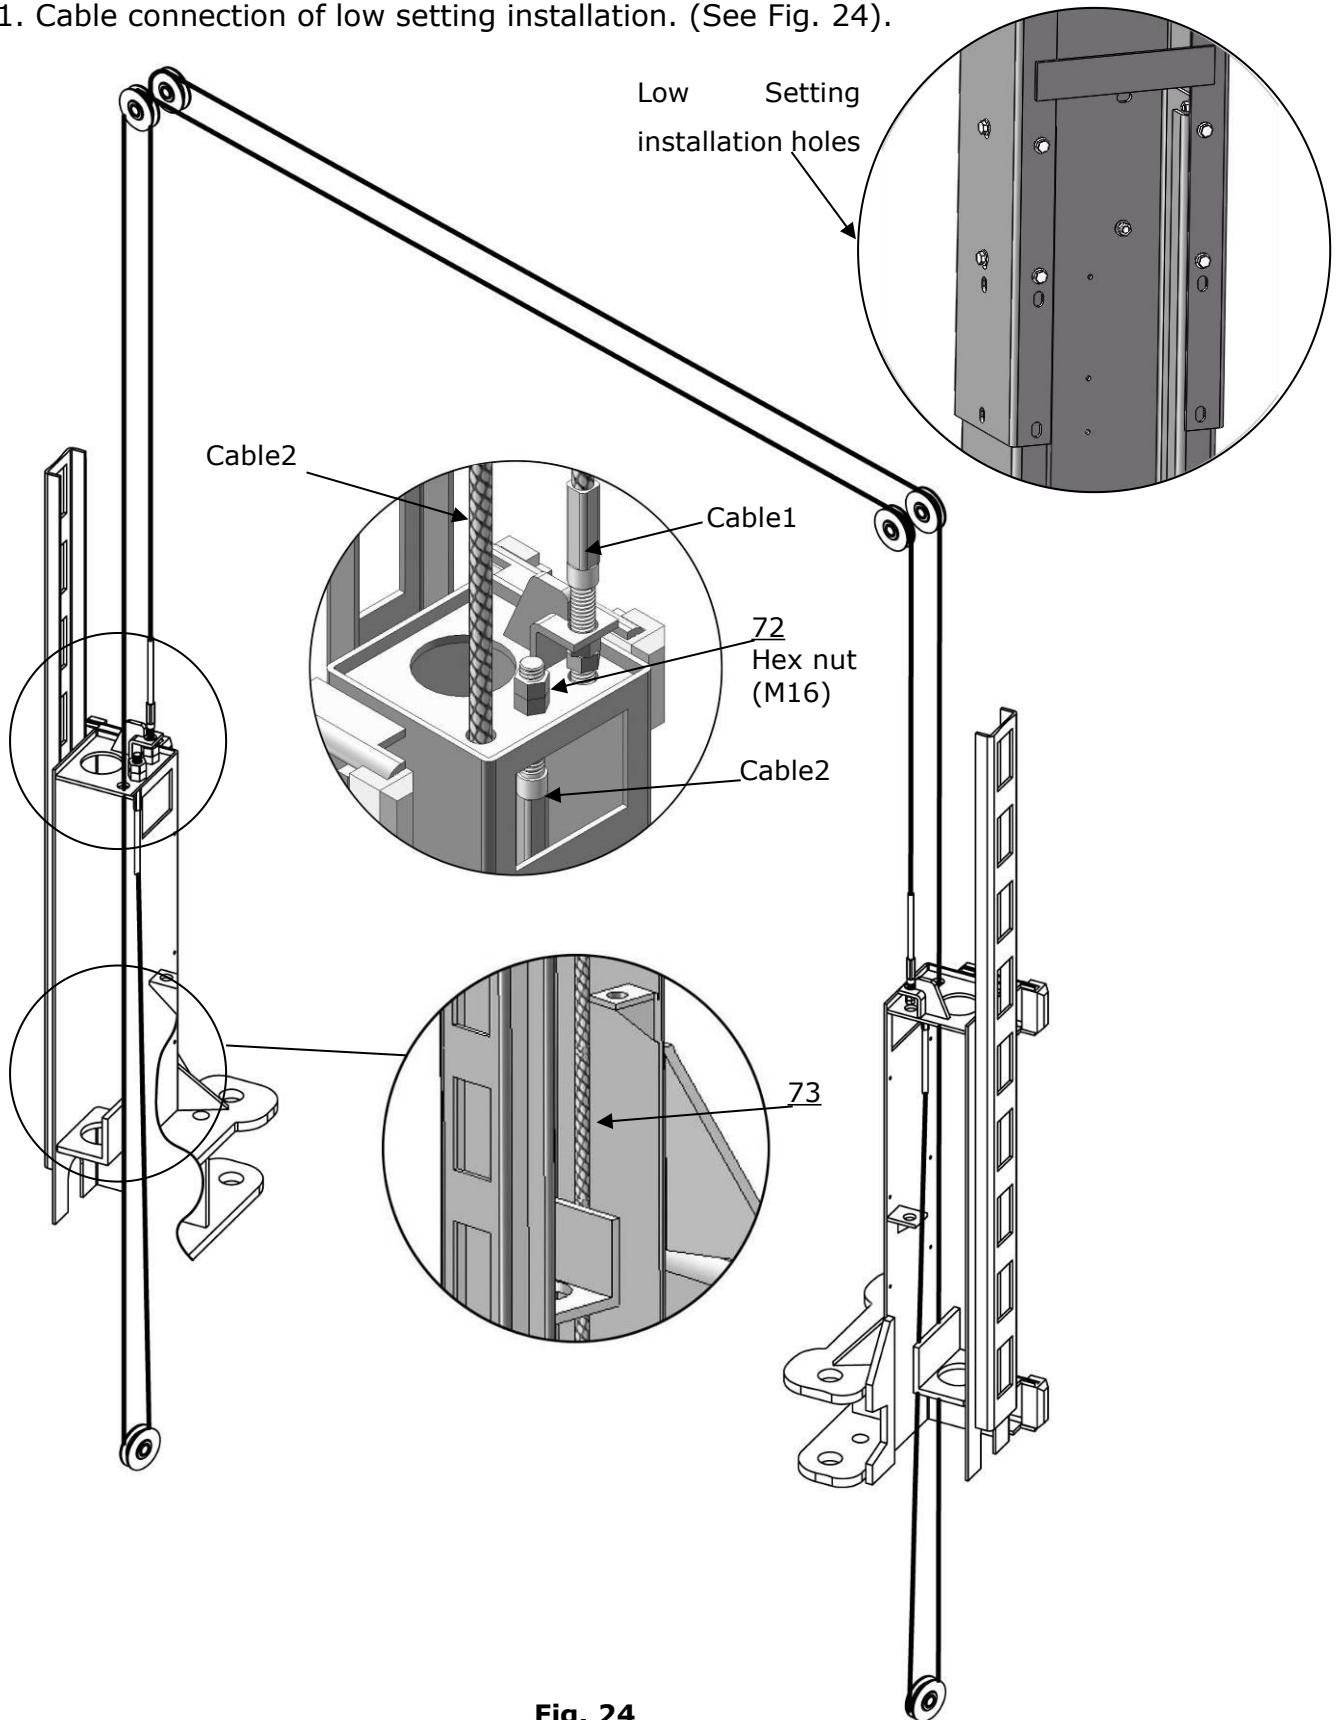

Fig. 24
1. Cable connection of low setting installation. (See Fig. 24).